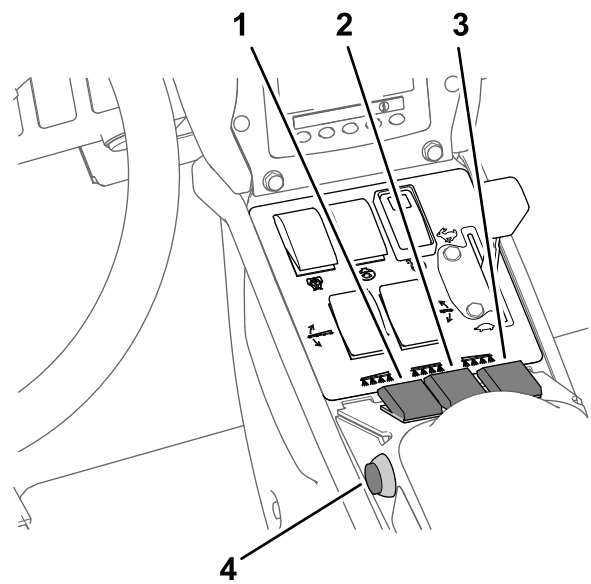

Figure 39
7. Set the spray section switch(es) to the ON position (Figure 39).
10. Drive at the desired speed and then set the master section switch to the ON position to begin spraying (Figure 39).
3. Set the master section switch to the OFF position; refer to Figure 39 in Spraying in the Application Rate Mode (page 35).
7. Set the individual section switches, as needed, to the ON position; refer to Figure 39 in Spraying in the Application Rate Mode (page 35).
9. Drive at the desired speed and then set the master section switch to the ON position to begin spraying; refer to Figure 39 in Spraying in the Application Rate Mode (page 35).